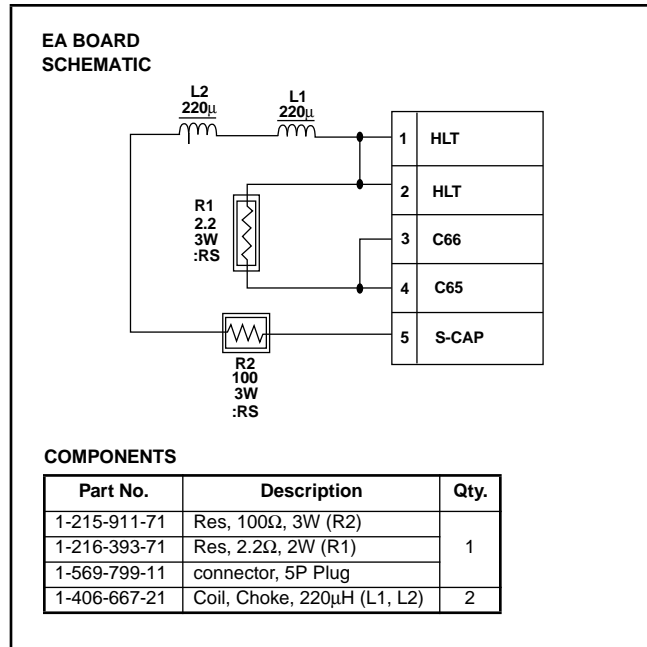

Figure 6
- EA board schematic is as shown in Figure 6.